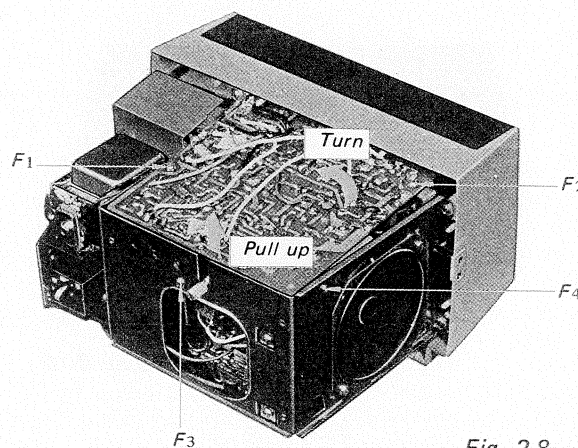

Fig. 2-8
1. Remove the four screws labeled F1-F4 in Fig. 2-8.
2. Pull up the EF board as shown in Fig. 2-8.
4. Turn the EF board in the direction shown by the arrow in Fig. 2-8.